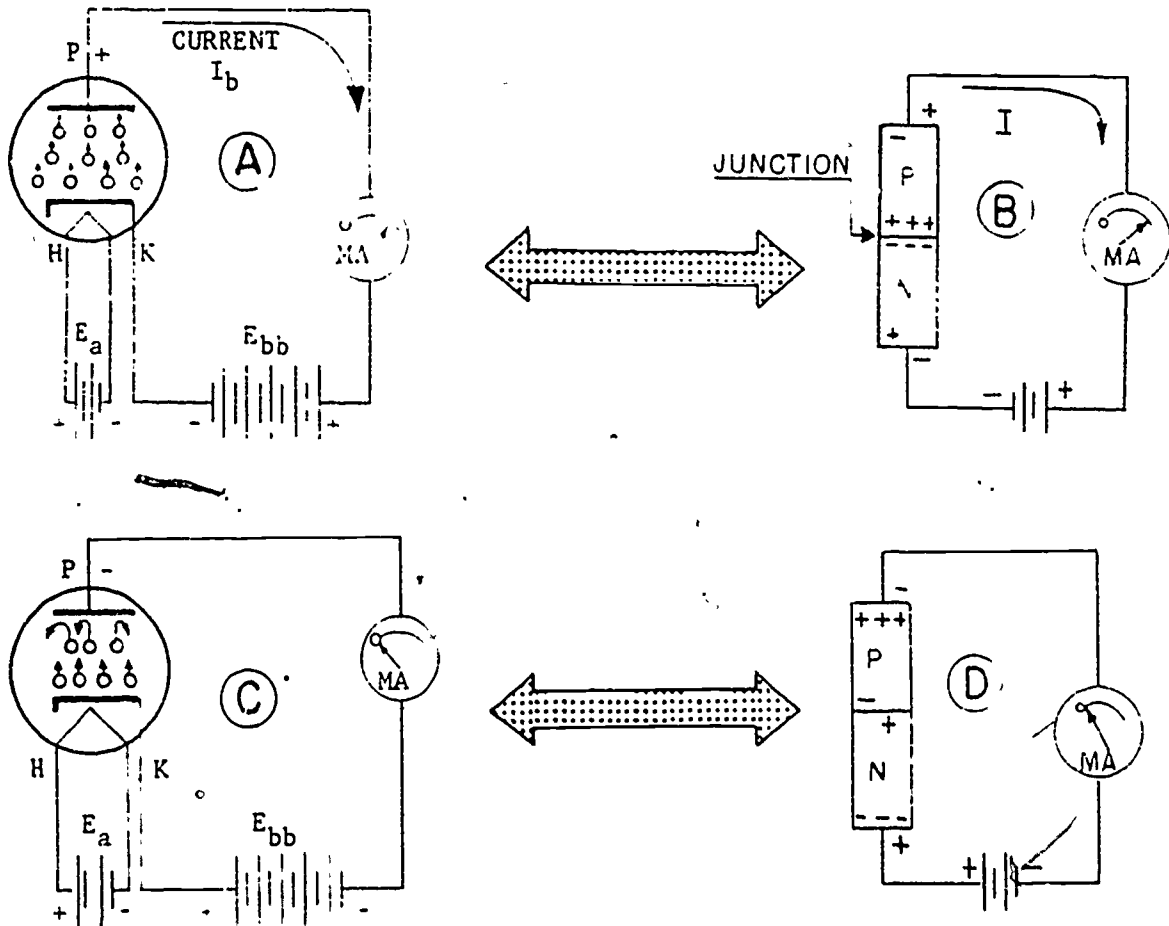

Figure 1-3. Comparison of electron-tube diode with junction diode.
- (2) To better understand the operation of a junction diode, compare its operation to that of an electron-tube diode. Figure 1-3 shows the comparison. When battery E_{bb} is connected as in A, the positive on the plate attracts the negative electrons emitted by the cathode. Current flow is indicated by the meter.
- (3) In B of figure 1-3, the positive charge of the battery on the P-type material repels the positive charges in the P material toward the junction. Likewise, the negative charge of the battery on the N-type material repels the negative charges in the N material toward the junction. Since unlike charges attract, the opposing charges effectively combine, weakening the opposition of the junction barrier. When the battery is connected in this manner, it aids the flow of current across the junction, and the diode is said to be forward biased.
- (4) In δ of figure 1-3, battery E_{bb} is reversed, making the plate of the tube negative. The plate repels the negative electrons, and, as the meter indicates, no current is flowing.
- (5) In ϵ of figure 1-3, the negative charge of the battery on the P-type material attracts the positive charges of the P material away from the junction. Likewise, the positive charge of the battery on the N-type material attracts the negative charges of the N material away from the junction. The concentration of unlike charges at the junction is thus reduced (strengthening the junction barrier), so the current flow across the junction is reduced. When the battery is connected in this manner, it impedes the flow of current across the junction, and we say that the diode is reverse biased.
- (6) If the battery in δ of figure 1-3 is replaced by an ac source, the charges will move to the junction on the positive alternation (forward voltage), and from the junction on the negative alternation (reverse voltage) of the ac wave. Since the junction diode has low opposition to the forward voltage and high opposition to the reverse voltage, the ac wave is changed to dc.